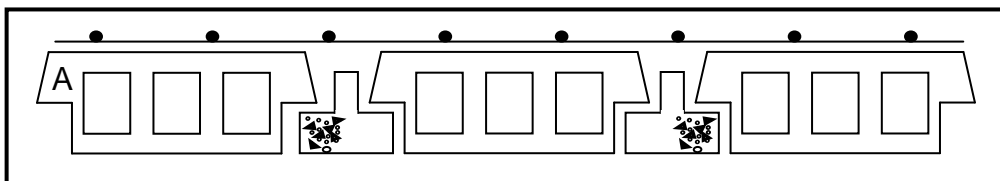

FIGURE 2.5
- 2.5 FIGURE 2.5 below shows an incomplete elevation of a type of suspended floor construction.
- 2.5.1 Name the type of floor construction in FIGURE 2.5. (1)
- 2.5.3 Justify why you would rather use the type of floor construction in FIGURE 2.5 than an in situ cast suspended floor. (3)